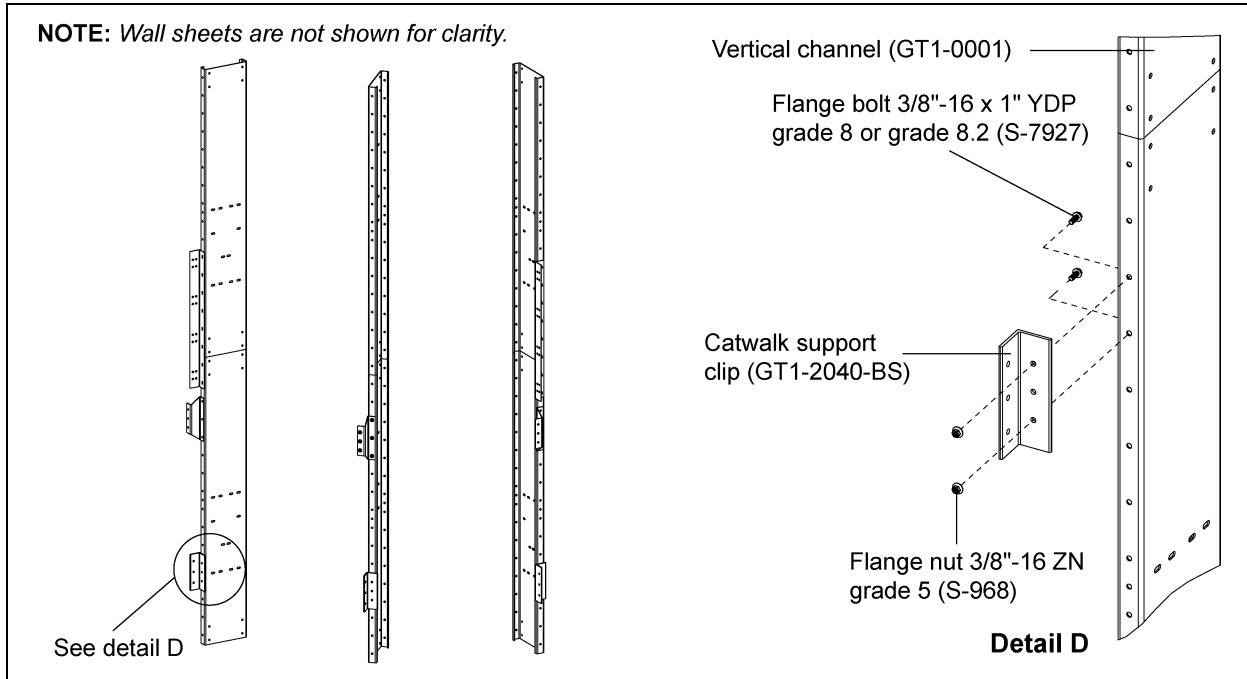

Figure 6G Offset Catwalk Support Clip Installation
1. Install catwalk support clips (GT1-2040-BS) to vertical channels (GT1-0001). Support clip can be installed on each vertical channel as the wall sheets are installed using 3/8"-16 x 1" YDP grade 8 or grade 8.2 bolts (S-7927) and 3/8"-16 ZN grade 5 nuts (S-968). (See Figure 6G below and Figure 6I on Page 44.)